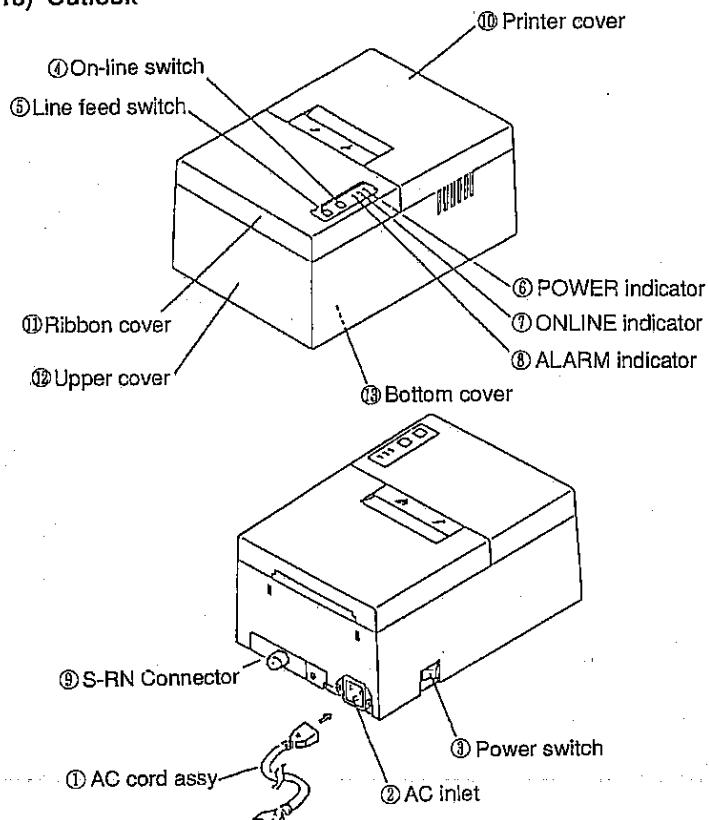

Fig. 1-1
18) Description of Each Block (Ref. Fig. 1-1)
① AC cord assy Insert the connector into the AC inlet of the printer and the plug into an AC outlet.
② AC inlet An inlet for power input. Insert the connector of the power cord assy into this inlet.
③ Power switch Set the switch ON to turn on power to the printer.
④ Online switch Press the switch to set the printer to the select (online) mode. Press the switch again to set the printer to the deselect (off-line) mode. The switch is also used to reset the alarm.
⑤ Line feed switch	When the switch is pressed during the printer operation, the printer is set to the deselect mode after printing the current line. Setting the power switch ON with the on-line switch held down will initiate the master reset operation.
⑥ POWER indicator (yellow green)	Press the switch to feed the paper (in the deselect mode only). The switch is used when loading new paper or when typing space between lines.
⑦ ONLINE indicator (yellow green)	Comes on when the printer is set to the select (online) mode, and goes off when it is set to the deselect (off-line) mode. Printer operation is possible only when the indicator is on.
⑧ ALARM indicator (red)	Lights when the printer trouble occurred or when the paper has depleted. When the indicator turns on, both the printer and line feed operations are disabled. To reset this condition, either press the on-line switch or turn off and on the printer power.
⑨ Connector	Used to connect the printer to the SRN host via a cable. Check that the power is off to both the printer and the SRN host when connecting the cable.
⑩ Printer cover	Open the cover to replace the paper.